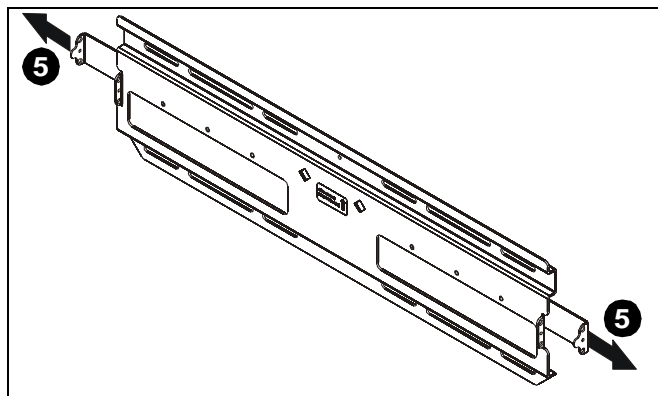

Figure 5
5. Slide the latches out on the wall mount in preparation for installing display. (See Figure 5)